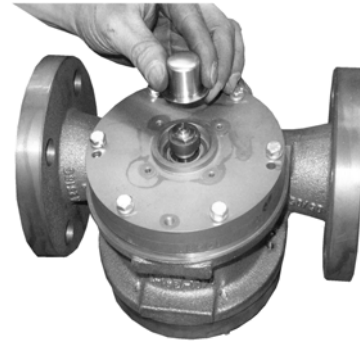

Figure 46
3. Place magnet cap over magnet (Figure 46)